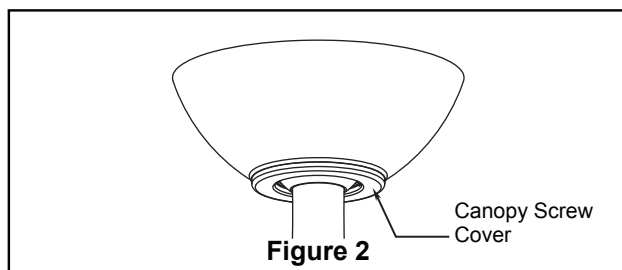

Figure 2
2. Securely attach and tighten the canopy screw cover over the shoulder screws in the hanger bracket utilizing the key slot twist-lock feature. (Figure 2)